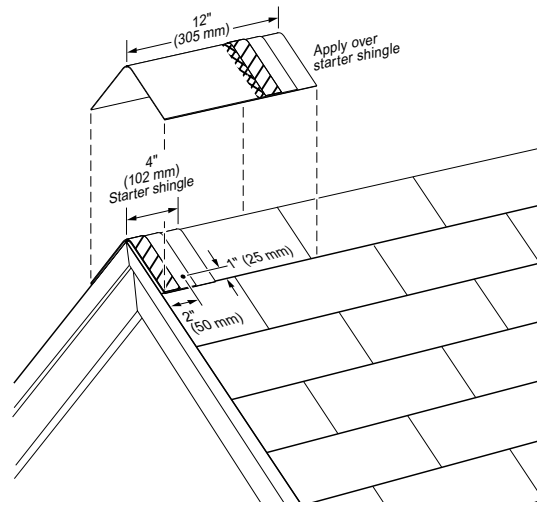
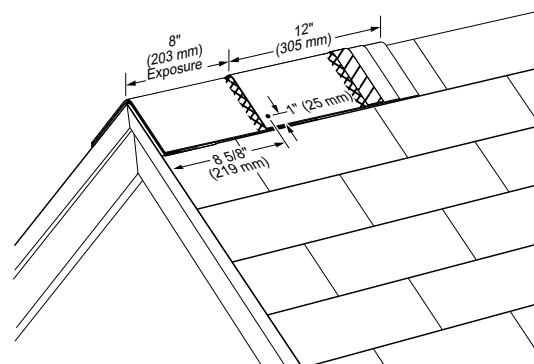

Figure 17-11: Apply a full cap shingle over the starter shingle.
Figure 17-12: Install cap shingles at an 8" exposure and fasten with one nail on each side as shown.
**IMPORTANT:** Use TWO nails to fasten each shingle. Fasteners must be minimum 13/4" (45 mm) long. For the starter shingle, place fastener 1" in from each side edge and about 2" up from the starter shingle's exposed butt edge, making sure fastener goes 3/4" into the deck or all the way through the deck. (see Figure 17-11). For each full Cedar Crest shingle, place fasteners 85/8" up from its exposed butt edge and 1" in from each side edge (see Figure 17-12).
Apply primary roofing up to hip or ridge on both sides of roof and trim flush. Ensure that the Cedar Crest shingles will adequately cover the top course of the shingles on both sides of the hip or ridge. Prepare a 4" "starter" shingle by cutting off the lower 8" color granule portion of one Cedar Crest shingle. Apply the 4" starter piece with raised overlay edge over the bottom corner of the hip or to either end of the ridge, overhanging the corner or end by approximately 1/2" and bending the starter shingle along its centerline to form into place (see Figure 17-11). Install a nail on each side about 2" up from the starter shingle's exposed butt edge and 1" in from each side edge of the shingle.
Then apply a full 12" x 12" piece over the starter, bending the shingle along its centerline and forming it into place over the hip or ridge, flush with the bottom and side edges of the starter shingle. Fasten with two nails minimum 1 3/4" long with one nail on each side of shingle 8 5/8" up from the butt edge and 1" in from each side edge (see Figure 17-12).